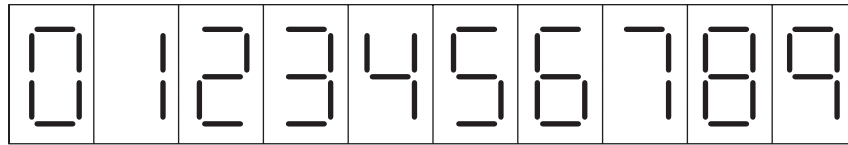

Figure P40
C 40. Seven-segment displays are commonly used in calculators to display each decimal digit. Each segment of a digit is controlled separately, and when all seven of the segments are on, the number 8 is displayed. The upper right segment of the display comes on when displaying the numbers 0, 1, 2, 3, 4, 7, 8, and 9. (The numerical designation for each of the digits 0 to 9 is shown in Figure P40.) Design a circuit that outputs a HIGH (1) whenever a 4-bit BCD code translates to a number that uses the upper right segment. Use variable A to represent the 2^3 BCD input. Implement your design with an AOI and inverters.